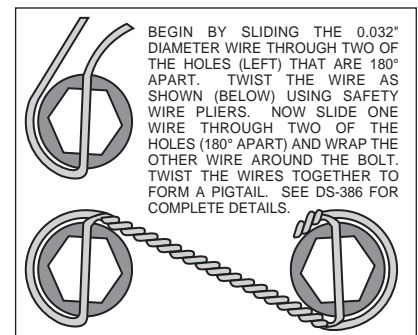

Figure 4. Safety Wire Diagram
- Identify the left and right caliper mounting brackets (1). Both brackets will be offset to the rear of the vehicle with the threaded inserts and the beveled bolt holes facing the outside of the vehicle. Apply red *Loctite*® 271 to bolt threads (2) before assembly of the caliper bracket (1) to backing plate face of spindle. Insert the three mounting bolts (2) through the caliper mounting bracket (1). Position the caliper mounting bracket (1) onto the spindle, slipping each of the three mounting bolts (2) into the threaded spindle holes, evenly finger tighten. Torque the three bolts (2) to 30 ft-lb. **NOTE:** Be sure the heads of the caliper bracket (1) insert nuts are facing outward toward the wheel.
- Install five new wheel studs (3) into the hub (4). Torque to 77 ft-lb. **NOTE:** There are two five lug patterns in the hub (5 x 4.00 and 5 x 4.50). Make sure of the correct hole pattern for the correct wheel application before installing studs into hub.
- Pack the large inner bearing cone (5) with high temperature disc brake bearing grease (available from your local auto parts store) and install into the backside of the hub (4).
- Install the grease seal (6) by pressing into the backside of the hub (4).
- Attach rotor adapter (7) to rotor (8) using six bolts (9). Using an alternating sequence, apply red *Loctite*® 271 to the threads and torque bolts (9) to 25 ft-lb. For an added measure of security, the bolts may be safety wired using standard 0.032 inch diameter stainless steel safety wire as shown in Figure 4. Please refer to Wilwood's data sheet DS-386 (available at www.wilwood.com/Pdf/DataSheets/ds386.pdf) for complete safety wire installation instructions. **NOTE:** The flat side of the rotor (8) lugs face toward the rotor adapter (7) with the dished side of the rotor adapter (7) facing away from the rotor (8).